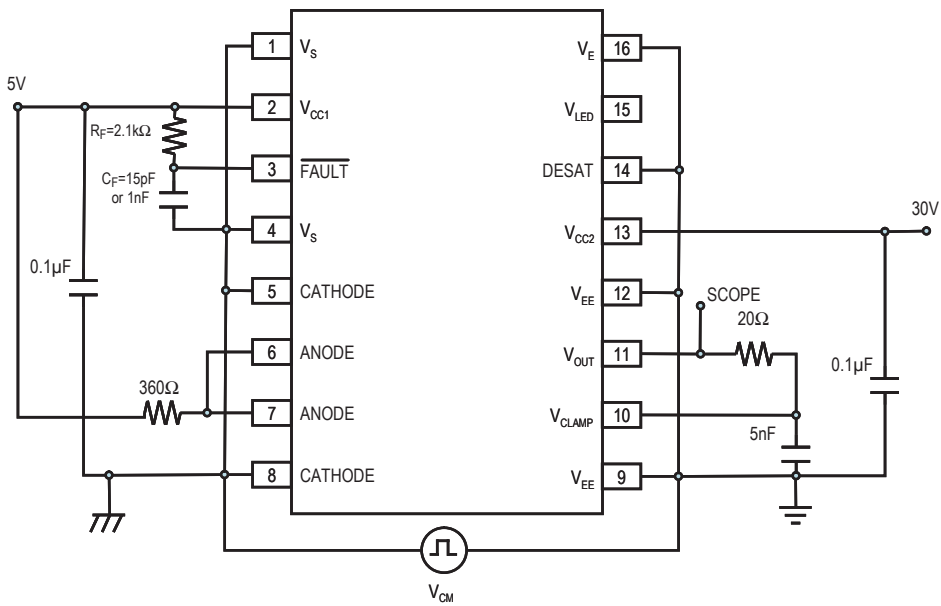

Figure 31. CMR Test Circuit LED1 on
- Split resistors network with a ratio of 1:1 is needed at input LED1. See Figure 31.